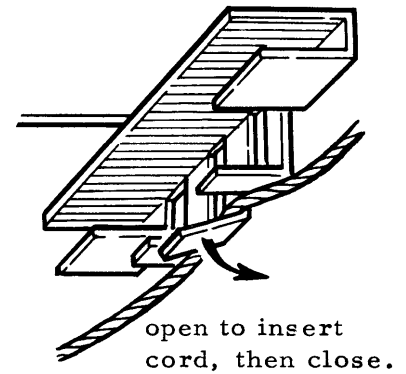

FIGURE 12
- ( ) With the tuning capacitor's vanes fully closed, set the dial pointer to 555 metres (medium wave scale) and loop the dial cord in the slots as shown in Figure 12.